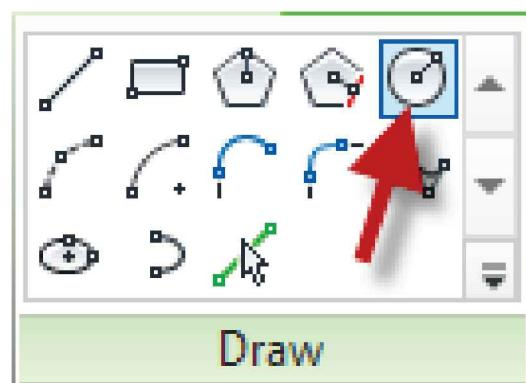

FIGURE 4-2.1 Sketch Options for detail lines
5. Select the **Circle** icon from the *Ribbon* (Figure 4-2.1).
35. Select *Detail Line* and then **Center – Ends Arc** from the *Ribbon* (Figure 4-2.1).